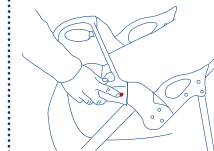

Fig. 11e
**To open the front child tray:** press inward on left side tray release button and rotate upward on the tray. Please see figure 11e. Please note that you may remove the tray completely by depressing the buttons on each side while pulling forward on the tray.